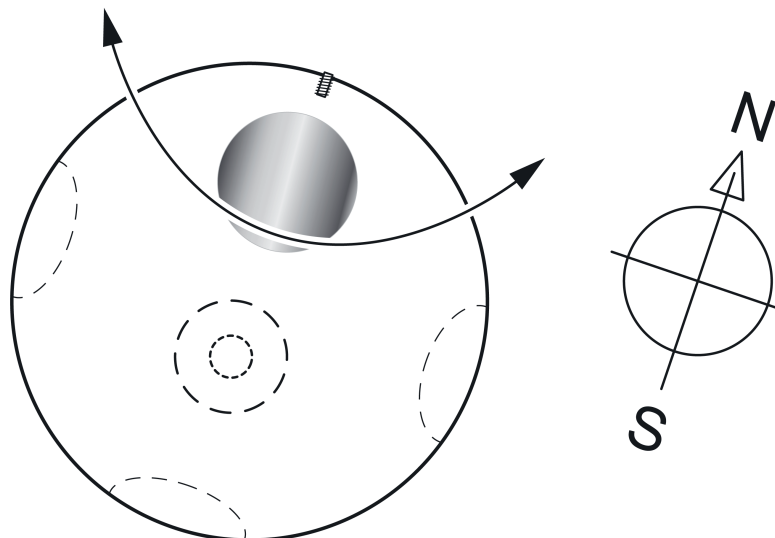

Figure 9: Orienting the weather station
- Align the sensor head in the appropriate direction or - depending on the detailed on-site circumstances - according to the alignment of the facade (figure 9).